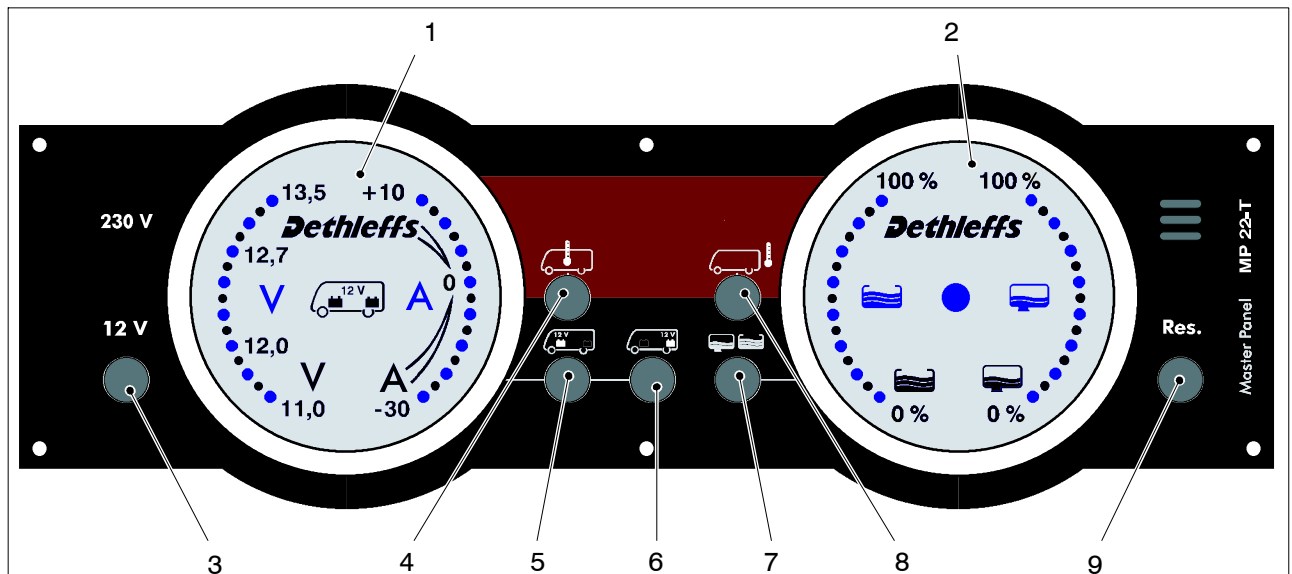

Bild 1 Layout of the MP 22-T display panel
- Press the "Living Area Battery" button once (underneath the living area battery symbol, Fig 1, Pos. 6).
► Press the "Vehicle Battery" button once again (underneath the living area battery symbol, Fig 1, Pos. 5). The display is analogous to the living area battery (see Fig. 2):